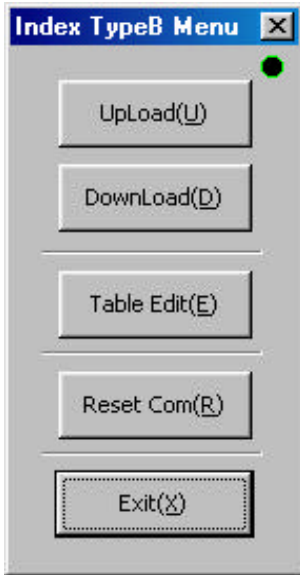

Figure 7.43 "Index TypeB Menu" dialog box
Click "*Index TypeB (O)*" in the "Index compensation" dialog box to display the "Index TypeB Menu" dialog box (see Figure 7.43).